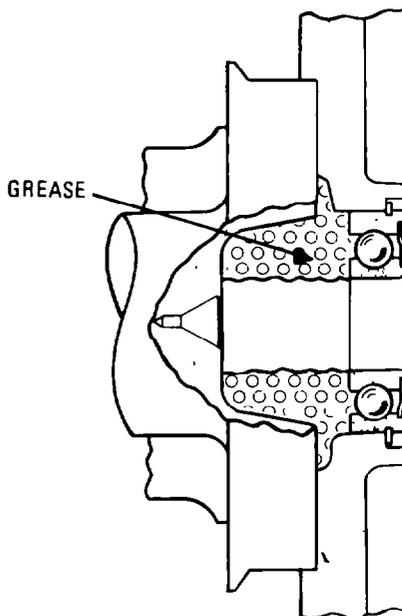

Fig. 76 — Packing Grease Cavity
- h. Pack the grease cavity behind the bearing with multipurpose grease (XG 274) (see fig. 76). Tape over the bearing to prevent ingress of dirt or foreign material.